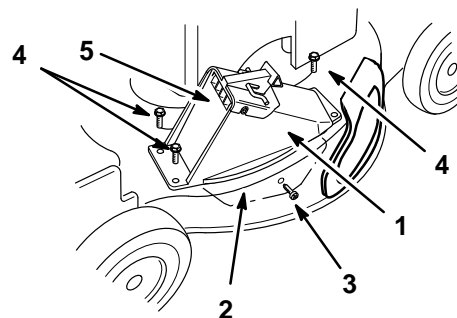

Figure 34
1. Grommet (4)
6. Insert the tongue of the discharge tunnel into the mower (Fig. 34).
7. Align the holes in the tunnel with the grommets in the mower (Fig. 34).
8. Ensure that the hole in the tongue aligns with the hole in the side of the mower (Fig. 34).
4. Bolt (3)
9. Install the self-tapping plastite screw supplied with the grass catcher into the side hole and tongue, and partially tighten the screw (Fig. 34).
10. Using three screws supplied with the grass catcher, fasten the discharge tunnel to the mower (Fig. 34).
13. Open and close the tunnel door to ensure that it moves freely (Fig. 34).